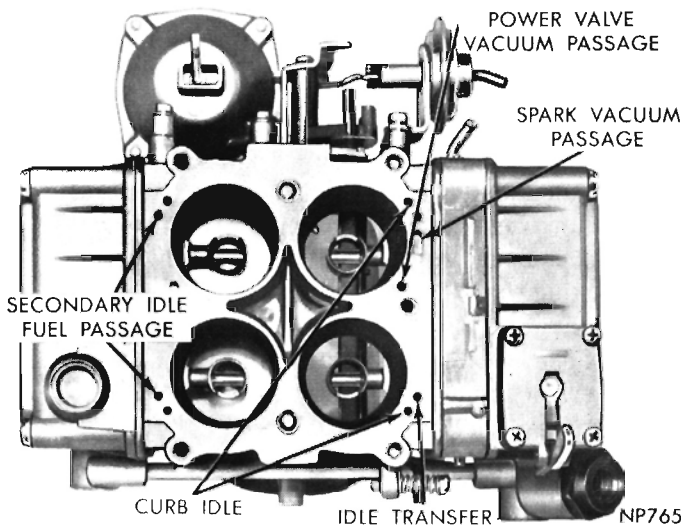

Fig. 13—Main Body Identification (Bottom View)
(1) Place a new gasket on throttle body, then lower main body (Fig. 13) down on throttle body, aligning roll pin guides with openings in main body. Be sure primary bores of throttle body are on the same side as primary venturi.